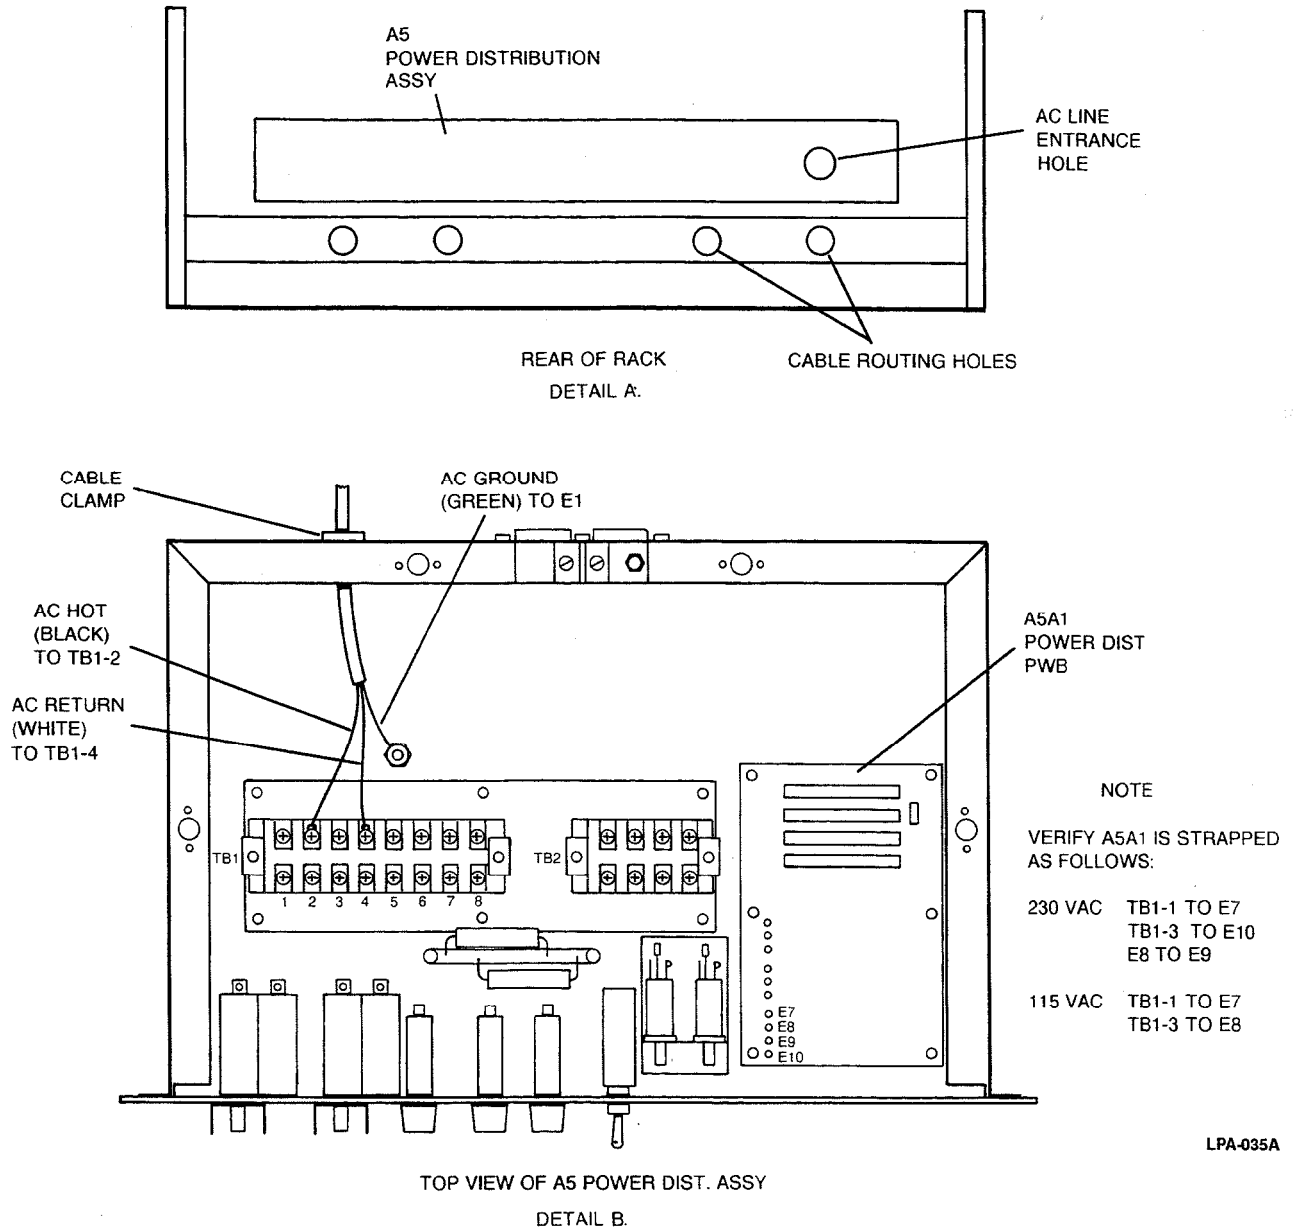

Figure 5-6. Primary Power Connection
- d. Route the power cable through one of the holes in the bottom rail of the rack, as shown in detail A of figure 5-6.
- f. Connect the green wire (GROUND) to ground lug E1, as shown in detail B of figure 5-6.